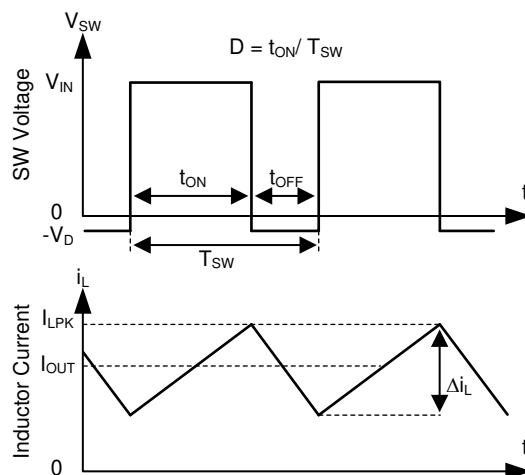

Figure 7-1. SW Node and Inductor Current Waveforms in Continuous Conduction Mode (CCM)
The following operating description of the LMR23615 refers to Section 7.2 and to the waveforms in Figure 7-1. The LMR23615 device is a step-down, synchronous buck regulator with integrated high-side (HS) and low-side (LS) switches (synchronous rectifier). The LMR23615 supplies a regulated output voltage by turning on the HS and LS NMOS switches with controlled duty cycle. During high-side switch ON-time, the SW pin voltage swings up to approximately V_{IN} , and the inductor current I_L increase with linear slope $(V_{IN} - V_{OUT}) / L$. When the HS switch is turned off by the control logic, the LS switch is turned on after an anti-shoot-through dead time. Inductor current discharges through the LS switch with a slope of $-V_{OUT} / L$. The control parameter of a buck converter is defined as duty cycle $D = t_{ON} / T_{SW}$, where t_{ON} is the high-side switch ON time and T_{SW} is the switching period. The regulator control loop maintains a constant output voltage by adjusting the duty cycle D . In an ideal buck converter, where losses are ignored, D is proportional to the output voltage and inversely proportional to the input voltage: $D = V_{OUT} / V_{IN}$.